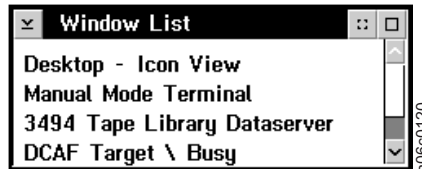

Figure 238. Window List
2. On the Window List (Figure 238), select the **DCAF Target \ Busy** option with the pointing device.